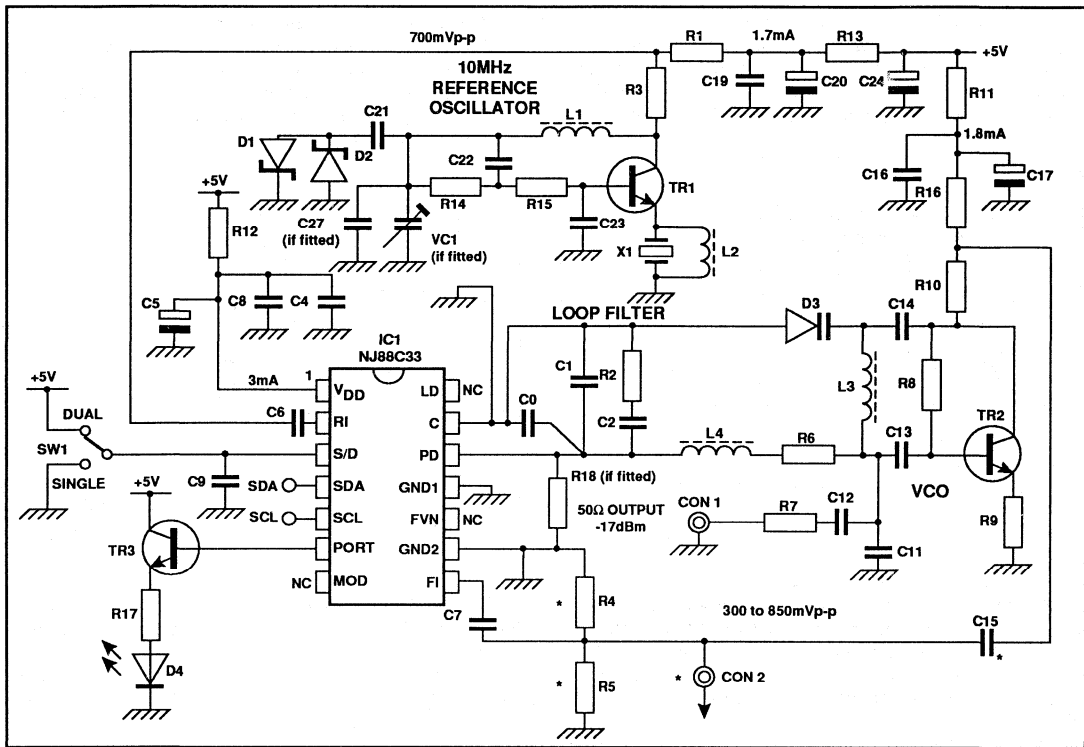

Fig. 11 Typical applications circuit
The NJ88C33 evaluation board (Fig. 11) demonstrates the preferred layout technique - providing a reference oscillator, a 60 to 80MHz VCO and a simple loop filter to complete a minimal frequency synthesiser loop. The two units allow analysis of different loop variables as well as the selection of comparison frequencies for fast frequency-hopping loops.
**COMPONENT LIST FOR FIG. 11**